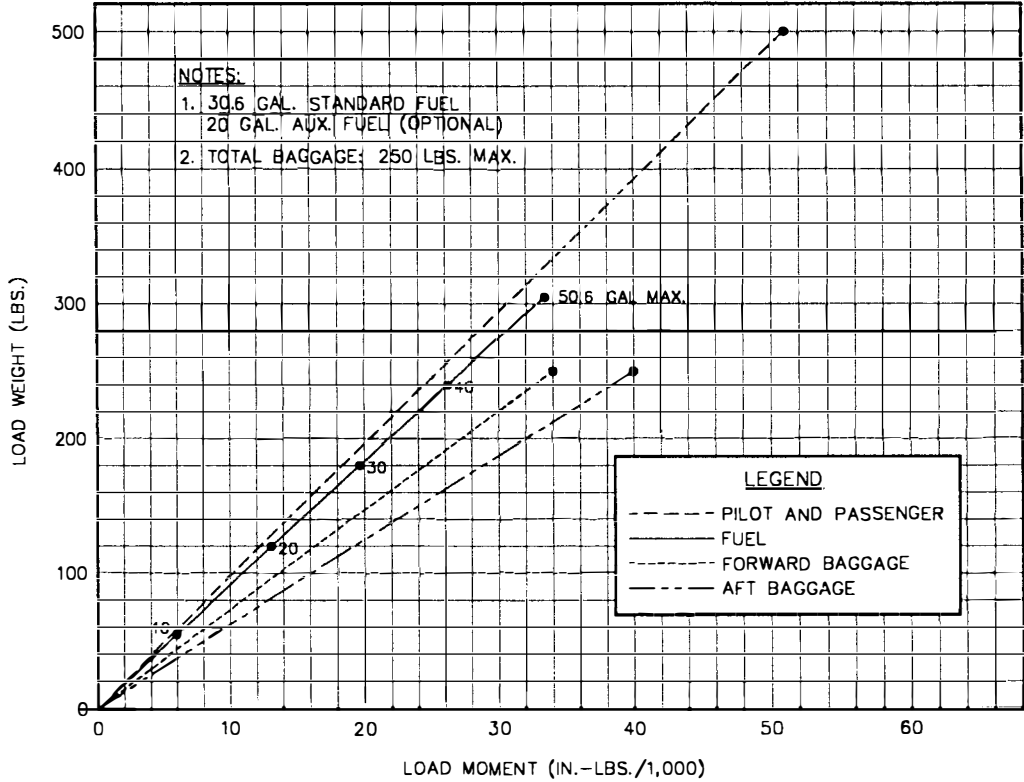

Figure 5-3: Loading Graph
2. Use the Loading Graph (Figure 5-3) to determine the moment/1,000 for each additional item to be carried; then list these items in Table 5-5.